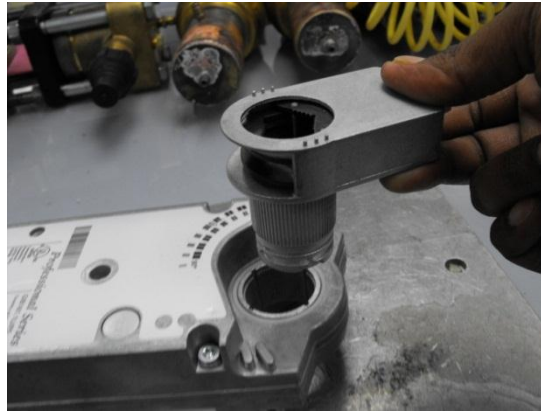

Figure 1
1. Get the Actuator (10), Self-Centering Shaft Adapter (9) and the Locking Clip out of the packaging.
2. Assemble the Shaft Adapter (9) onto the Actuator as shown in Figures 1&2. Be sure to assemble the Shaft Adapter so that the line mark can be seen. Depress the manual override button on top of the Actuator and manually cycle the Shaft Adapter back-and-forth through the full 90° cycle to confirm that it has full range. Reposition if necessary.